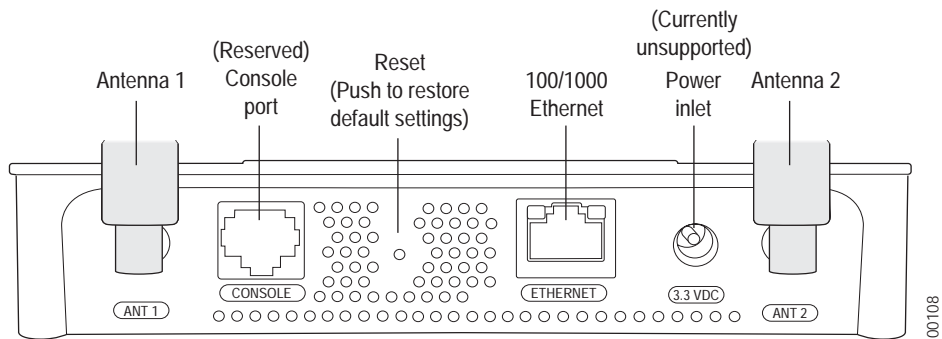

Figure 16: AP200 Connector Panel
3. Connect one end of the PoE 100BaseT Ethernet cable to the 100/1000 Ethernet connector, shown in Figure 16.
Caution! Be sure to connect the Ethernet cable to the Ethernet port; the cable can mistakenly be plugged into the Console port (see Figure 16).
9. Connect one end of the PoE 100BaseT Ethernet cable to the 100/1000 Ethernet connector, shown in Figure 16.
10. Connect one end of the PoE 100BaseT Ethernet cable to the 100/1000 Ethernet connector, shown in (see Figure 16).
12. Connect one end of the PoE 100BaseT Ethernet cable to the 100/1000 Ethernet connector, shown in Figure 16.